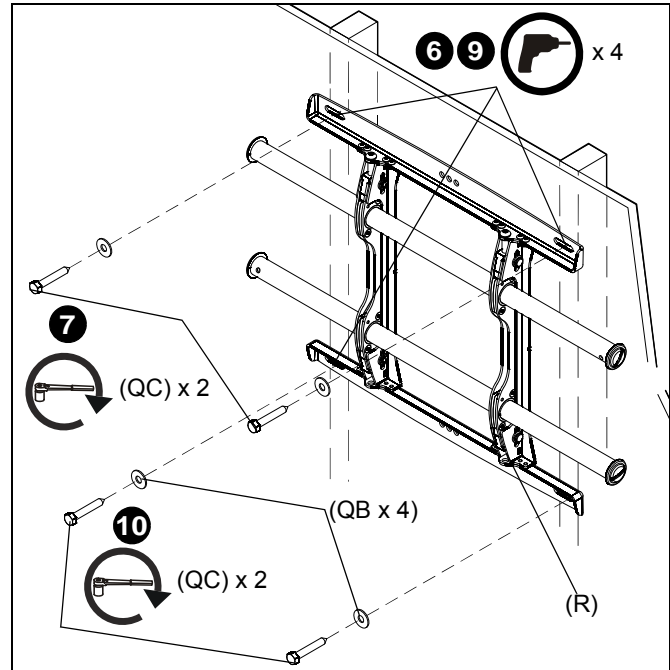

Figure 6
7. Use two 5/16 x 2-1/2" lag bolts (QC) and two 5/16" flat washers (QB) to attach top of mount to wall. (See Figure 6)
8. Mark the attachment points for the lower mounting slots, making sure the attachment points are located on the studs. (See Figure 6)
9. Drill 7/32" pilot holes at markings for lower mounting holes. (See Figure 6)
10. Use two 5/16 x 2-1/2" lag bolts (QC) and two 5/16" flat washers (QB) to attach the mount to the wall through the lower mounting holes. (See Figure 6)